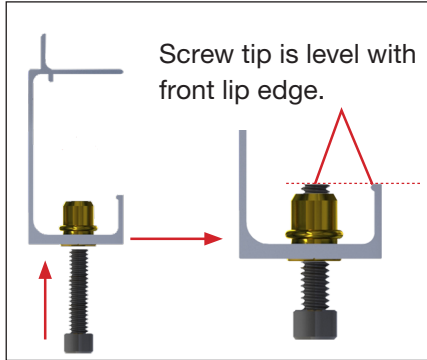

Fig. 3
- Assembly: Insert a leveling screw into each standoff bracket so that the end is flush with, but *not* higher than, the top edge of the front lip of the bracket. (Fig. 3)